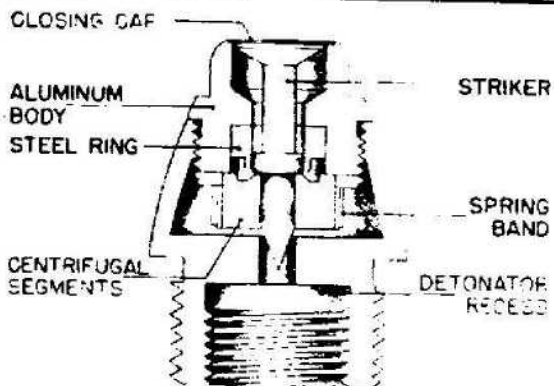

Figure 560—A. Z. 5072
**EMPLOYMENT:** Mechanical impact nose fuze for H. E. projectile in 28-20 and 42-28 tapered bore guns. (See fig. 560.)